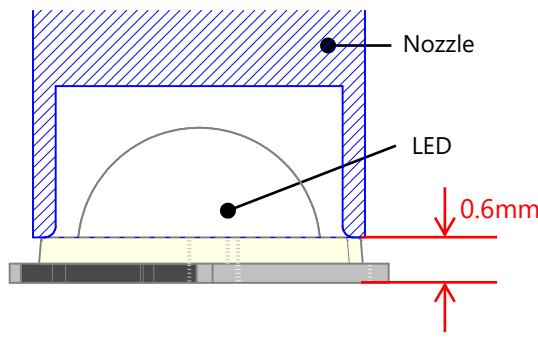

Figure 4. Cross-sectional view of a nozzle when transporting a LED to a PCB
1. As shown in Figure 4, the nozzle tip should only touch the flat corners of the LED's top surface to hold the LEDs. Ensure that it does not come in contact with the lens. The LEDs use a silicone resin for the lens and internal pre-coating resin; the silicone resin is soft. If pressure is applied to the lens, it may cause the lens to be damaged, chipped and/or delaminated. If the lens is damaged, chipped, delaminated and/or deformed, it may cause the wire to break causing catastrophic failure (i.e. the LED not to illuminate) and/or reliability issues (e.g. the LED to corrode and/or to become dimmer, the color/directivity to change, etc.) Ensure that no amount of pressure is applied to the lens.